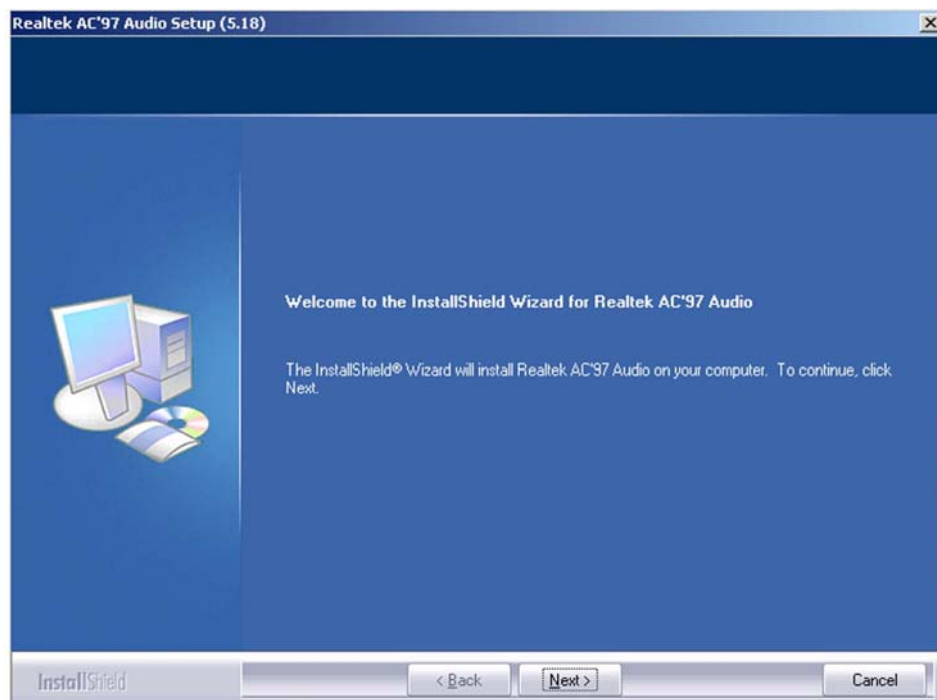
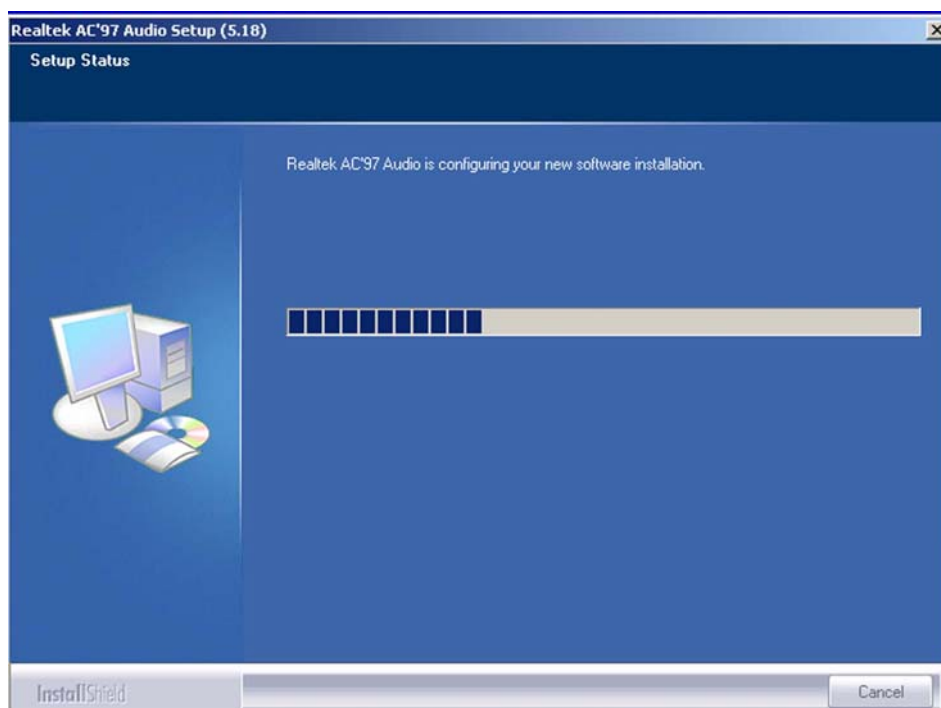

Figure 6-14: Audio Driver Welcome Screen
Figure 6-15: Audio Driver Software Configuration
Step 4: After install shield is prepared, the welcome screen shown in **Figure 6-14** appears. To continue the installation process, click the “**NEXT**” button. The install shield starts to configure the new software as shown in **Figure 6-15**.